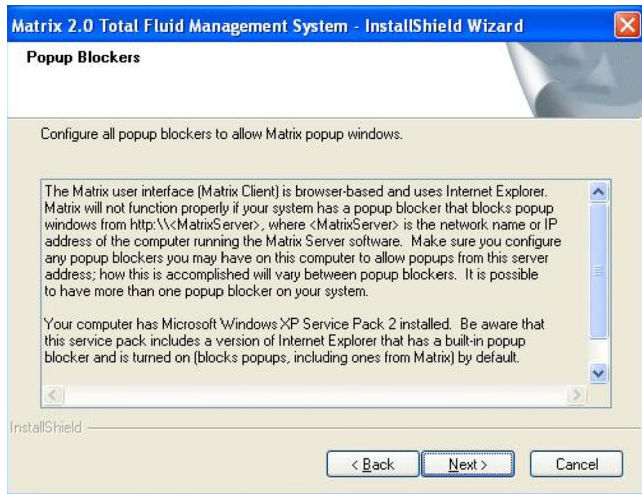

FIG. 31 Setup Path 2 - Pop-up Blockers
- You may need to make changes to pop-up blockers installed on the PC for Matrix to function properly. Read this information carefully for guidance (FIG. 31). Click **Next**.